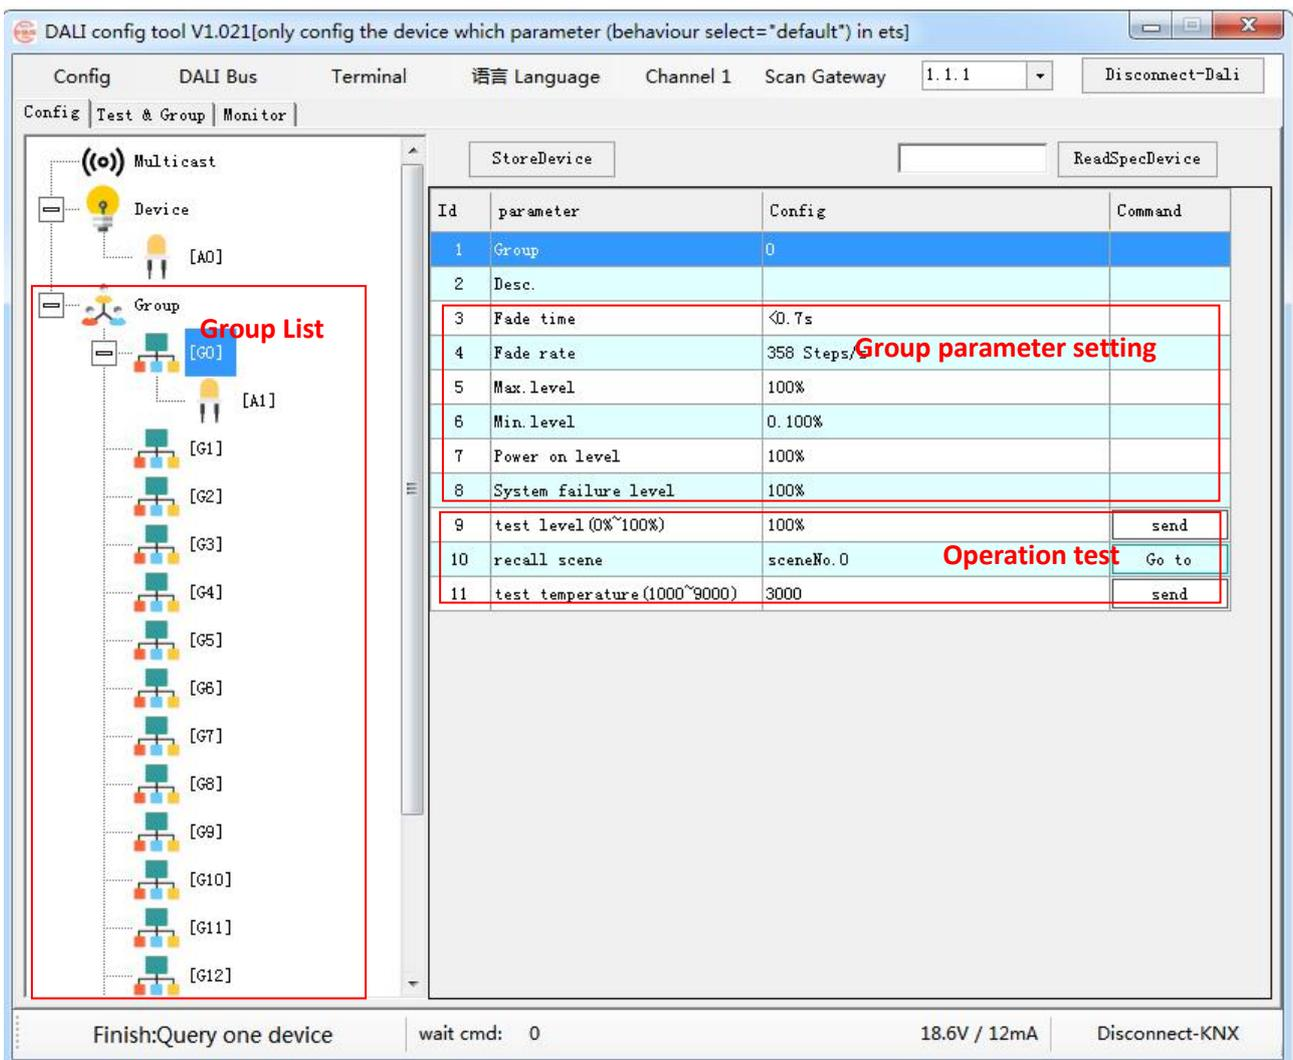
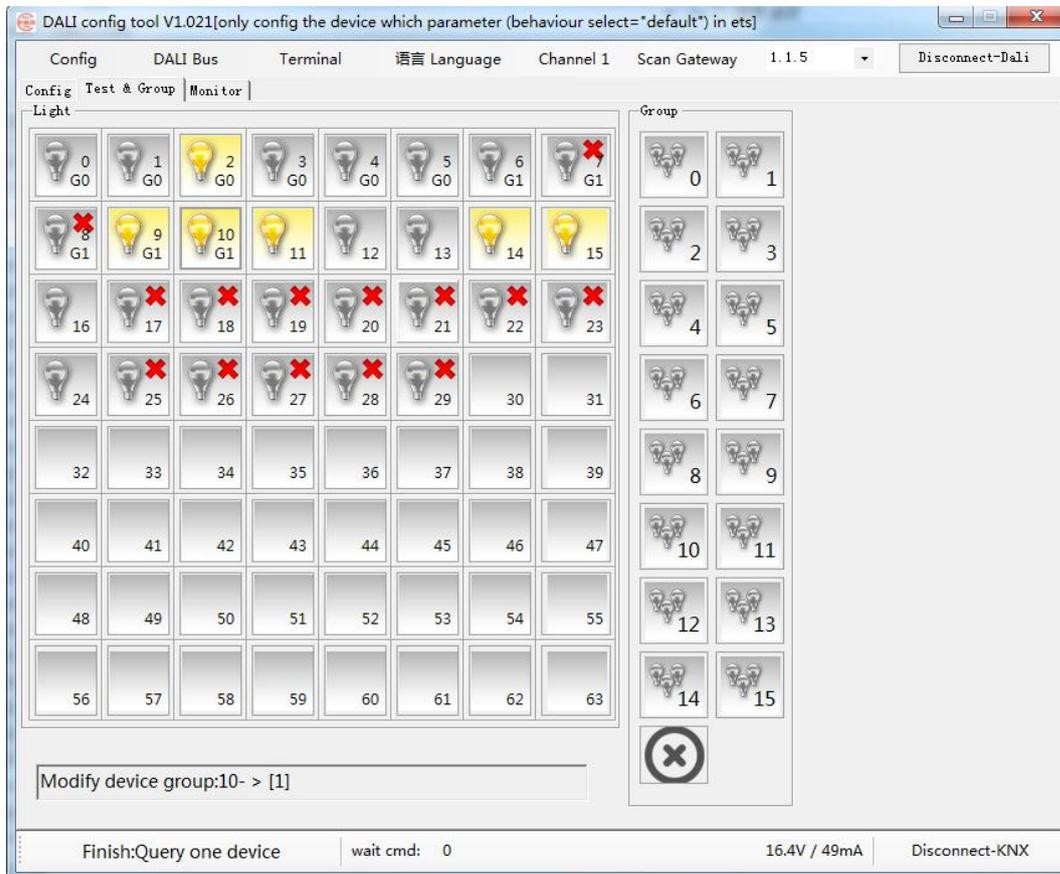

Fig.3.8 Group configuration interface
Fig.3.10 Test&Group Interface
② **ReadDevice:** Select a DALI device in the device list, click button “ReadDevice”, read all the information of the device through DALI bus and synchronously display in the software, such as group configuration, scene configuration and parameter setting, etc.
③ **StoreDevice:** Store the modified configuration of the device. After storing, this device on the DALI bus can be directly applied to the saved configuration.
④ **ReadSpecDevice:** Input device address in the text box and read the status information of the device, at the same time, parameter configuration of the device in the debug software will also synchronously update. For example: when a DALI device is damaged and need to be replaced, user can read the status information of the device first, then store the damage information to the new device after it is replaced with the new device. **(Note: ensure DALI addresses of both new and old device are the same.)**
⑤ **Addr.:** Display the DALI address of the selected DALI device, users can modify DALI address in the “Test&Group” window interface, as shown in the following Fig.3.10.
⑥ **Desc.:** Device Description, to add a name for DALI device, for example, 2#lamp.
⑦ **Device Type:** Display DALI device type, such as DT6 for displaying 6 in the column
⑧ **Group:** Display the group that DALI device belongs to. “NotJoin” for not assigning to any group. Users can assign DALI devices to a group in the “Test&Group” window interface, as shown in Fig.3.10. After the device is assigned to the group, it will displays in the group list, as shown in the following Fig.3.8.
⑨ **Parameter Setting:** Parameter setting of the DALI device including fade time, fade rate, max.level brightness, min.level brightness, power on level, system failure level and Phys.Min.level brightness, in which Phys. Min.level brightness is the characteristic of the DALI device and cannot be modified.
Group configuration interface as shown in the Fig.3.8, which is used for group parameters setting and group testing.
Test&Group interface as shown in Fig.3.10, here you can view all the connected DALI devices on the DALI bus, including ballasts, lamp failure status, grouping, and so on. Switch operation of each lamp and each group, modification of DALI device address and group assignment of DALI device can be operated.